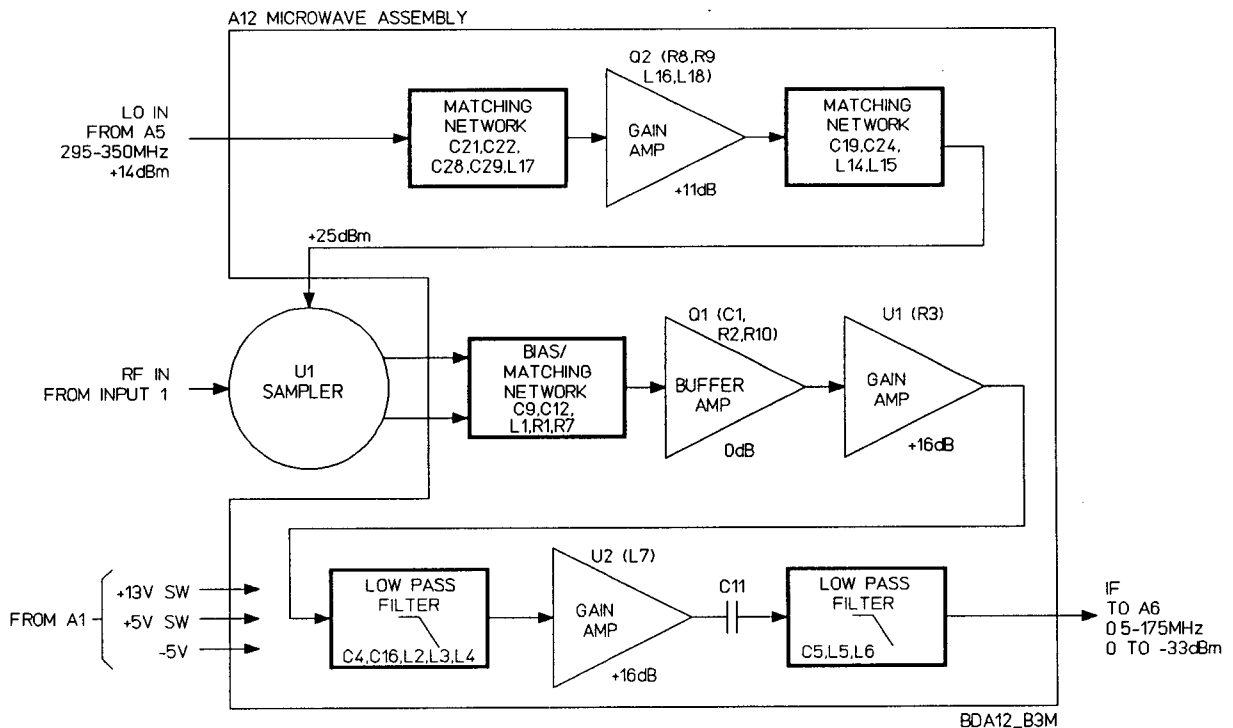

Figure 8-30. A12 Block Diagram
The basic function of the A12 Microwave Module, shown in *Figure 8-30*, in the HP 5347A /48A is to down-convert microwave signals in the 500 MHz to 26.5 GHz region to the intermediate frequency (IF) region of the counter. The 30 to 175 MHz IF signal is amplified and detected by the A6 IF Amplifier/ Detector Assembly, and then counted by the A3 Counter Assembly.